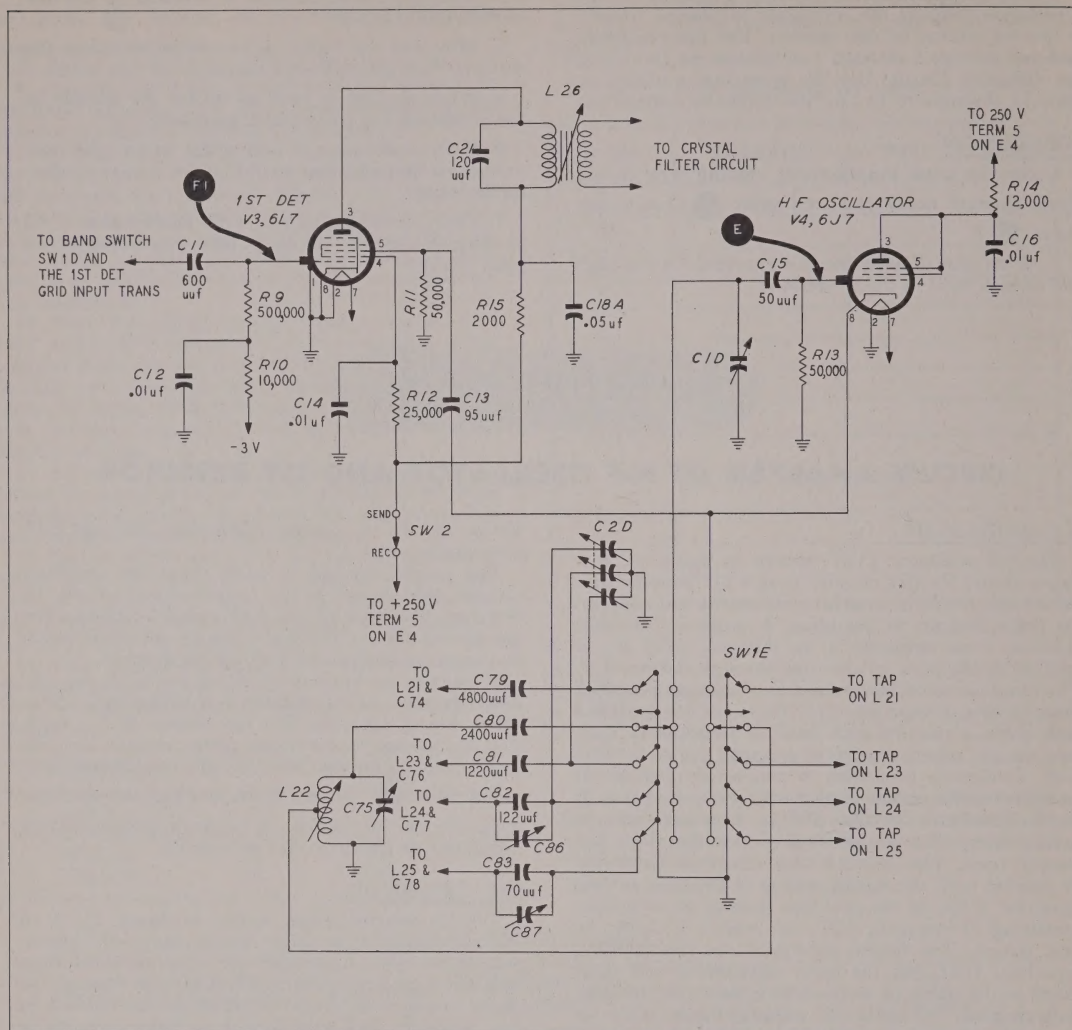

Figure 13. H-F Oscillator and 1st-Detector Circuits
The h-f oscillator (V4), shown in figure 13, is a conventional Hartley circuit, using a 6J7 pentode connected as a triode by attaching the screen and suppressor grids directly to the plate. A positive 250 volts, obtained from terminal 5 on terminal strip E4, is applied to the plate of the tube through resistor R14. The plate circuit is maintained at r-f ground potential through by-pass capacitor C16. There are five oscillator tank circuits, one for each band of frequencies. Each tank circuit, which consists of a tapped coil in parallel with a trimmer capacitor, is connected through its associated series padder capacitor to the fifth section of the band-selector switch, SW1E. The band-selector switch selects the proper tank circuit for each frequency band. The selected tank circuit is connected in parallel with the fourth section of the main tuning capacitor, C1D, to the grid-leak biasing arrangement, consisting of capacitor C15 and resistor R13, in the grid circuit. The fourth section of the main tuning capacitor, C1D, has the same capacitance and plate shape as the three r-f sections to which it is mechanically coupled. The feed-back necessary for oscillation is obtained by connecting the tap on each oscillator tank coil, through the band-selector switch, to the cathode of the tube. The frequency of oscillation on each band is 465 kc. higher than that of the received signal. The fourth section of the band-spread capacitor, C2D, is connected in parallel with the tuned tank circuits on the three high-frequency bands. Since this section of the band-spread capacitor is mechanically coupled to the three r-f sections, varying the BAND SPREAD control on the front panel will shift the oscillator frequency the same number of kilocycles as the frequency of the r-f circuits. The tracking of the oscillator at the high-frequency end of each band is adjusted by trimmer capacitors. The low-frequency end of the 10—20-mc., 5—10-mc., and 2.5—5.0-mc. band is adjusted by varying the inductance of the tank coils; the series padder capacitors in these bands are fixed. The low-frequency adjustments for the 100—200-kc. and 200—
The 1st-detector stage, shown in figure 13, is an electron-coupled-type mixer employing a 6L7 pentagrid mixer tube. A positive 250 volts, obtained from terminal 5 on terminal strip E4, is applied through the closed contacts of the SEND-REC switch (shown in REC position) and individual decoupling networks to the screen grid and plate. The decoupling network for the screen grid is made up of resistor R12 and capacitor C14; the decoupling network of the plate circuit is made up of resistor R15 and capacitor C18A. The suppressor grid is internally connected to the cathode, which is returned directly to ground. A negative 3-volt bias, obtained from the bias-supply voltage divider, is applied through decoupling resistor and capacitor R10 and C12 and grid-leak resistor R9 to the signal grid. The input voltage from the oscillator cathode is coupled to the injector grid (grid no. 3) through coupling condenser C13 and grid-leak resistor R11. The r-f signal from the 2nd r-f amplifier is applied to the signal grid (grid cap) through coupling capacitor C11 and grid resistor R9.
3. Draw the simplified schematic figure 13 upon the blackboard before the lecture.